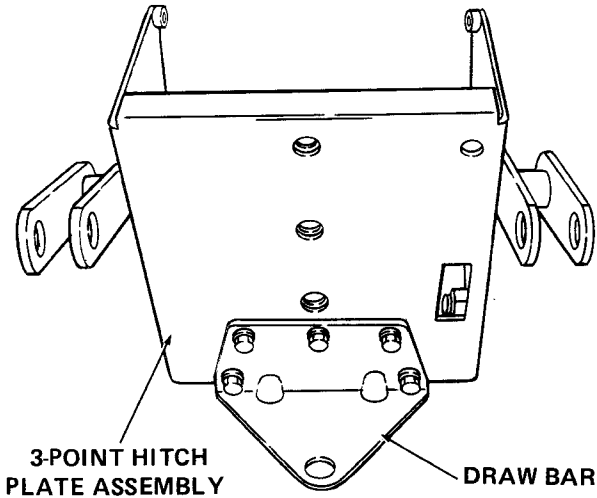

Figure A-6
1. Assemble 3-point hitch plate (1) as follows:
- a. Install draw bar hitch plate to 3-point hitch assembly with five hex cap screws and lock washers retained from Section II, step 6. Refer to Figure A-6.